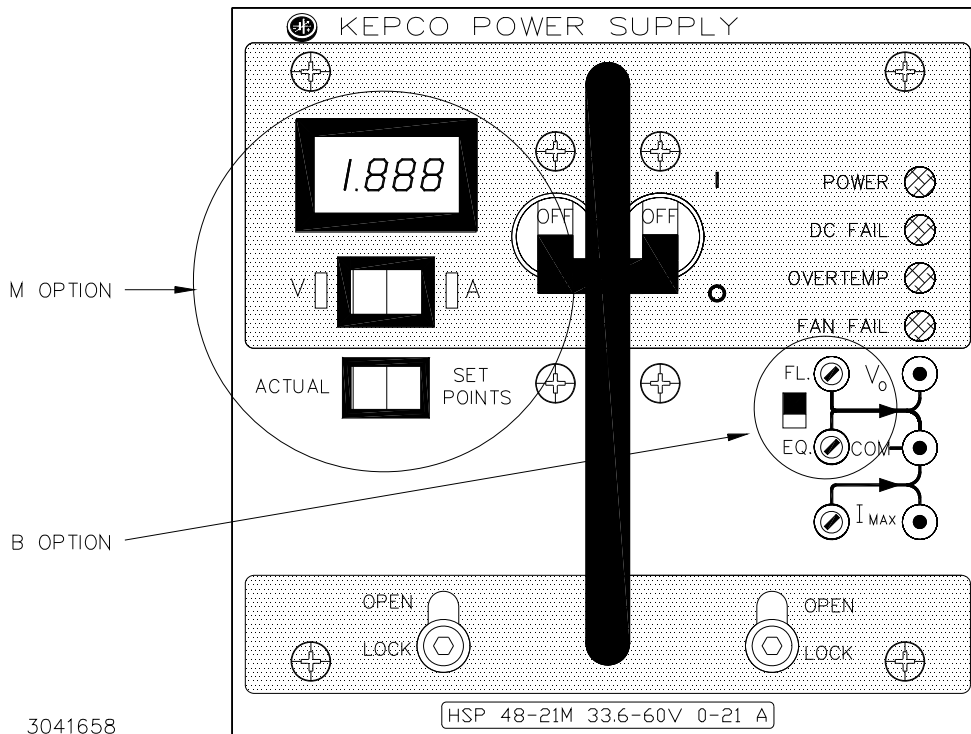

FIGURE 3-7. HSP M (METER) OPTION AND B (BATTERY CHARGER) OPTION, FRONT PANEL
HSP series power supplies are available with a meter option ('M' suffix) which incorporates a 3½ digit LED meter display on the front panel. The meter provides both voltmeter and ammeter functions. The V-A rocker switch directly below the meter (Figure 3-7) selects either output voltage (V) or module current (A) as the normally-displayed parameter. The associated LED, either V or A, lights to show the selected switch position. When depressed, the ACTUAL/SETPOINTS momentary-contact switch located below the V-A selector switch causes the meter to display the programmed value of output voltage or current limit, as selected by the V-A switch. The opera-
When the Float-Equalize switch is set to FL (see Figure 3-7), the Float potentiometer adjusts the output voltage; when set to EQ, the Equalize potentiometer adjusts the output voltage. The FL-EQ position also determines which voltage is available at test point V_o . CAUTION: Adjusting the non-selected potentiometer (e.g., FL potentiometer with switch set to EQ) can have adverse effects, because an unknown output voltage will be applied to the load when the switch position is changed. The fault detector window is altered to accommodate the normal range of battery voltage from fully discharged to peak equalize charge as shown in Table 3-3.: